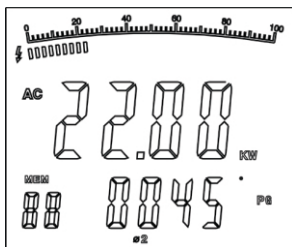

Figure 9
2. After recording the current power measurement value of the first phase, then press **SEL** to choose $\odot 2$. The double display shows the value of active power kW and PG of the second phase 2. as in figure 9.